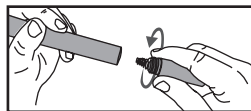

Figure 19.1; Unscrew Battery Cap
Carefully remove the BATTERY CAP ⑧ from the E-Wand [Fig. 19.1]. Be sure not to remove the batteries.